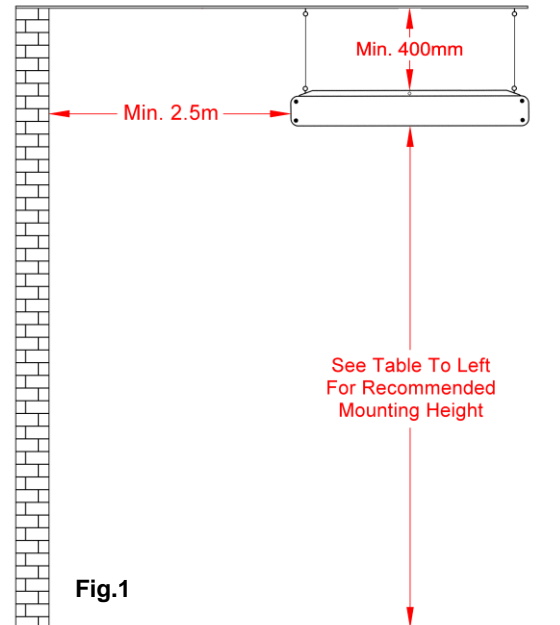
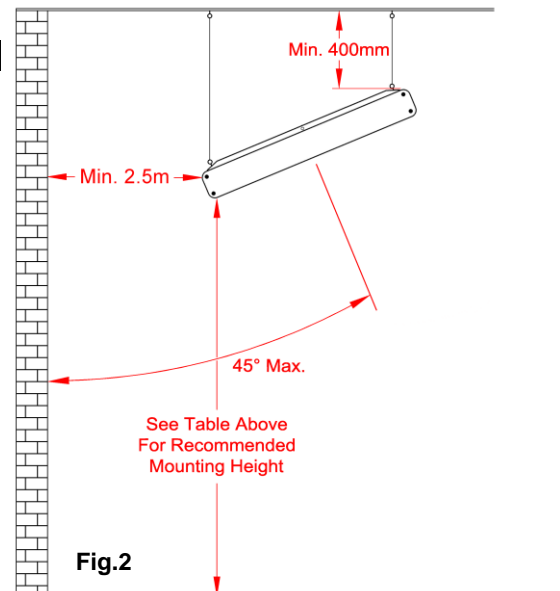

Fig.1
Fig.2
- ❑ **WARNING!** Ensure you observe the safety distances (see Fig.1) and there is no possibility of inflammable materials coming into contact.
3.1 CEILING MOUNTING (Fig.1 & 2)
- ❑ **IMPORTANT!** The heater should be ideally mounted horizontal to the floor (see Fig.1) but can also be mounted at an angle up to 45° ensuring that the lamps stay horizontal to the floor. (see Fig.2). Failure to keep the 6 lamps horizontal to the floor will drastically reduce their life and is not covered by the guarantee.